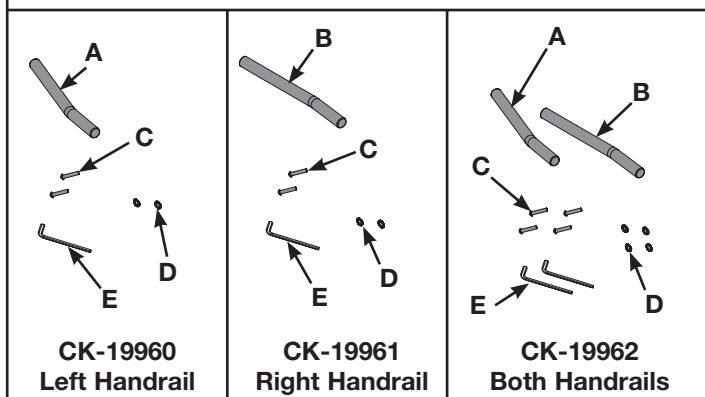

Figure 37
2. Verify the appropriate kit and contents. See Figure 37.